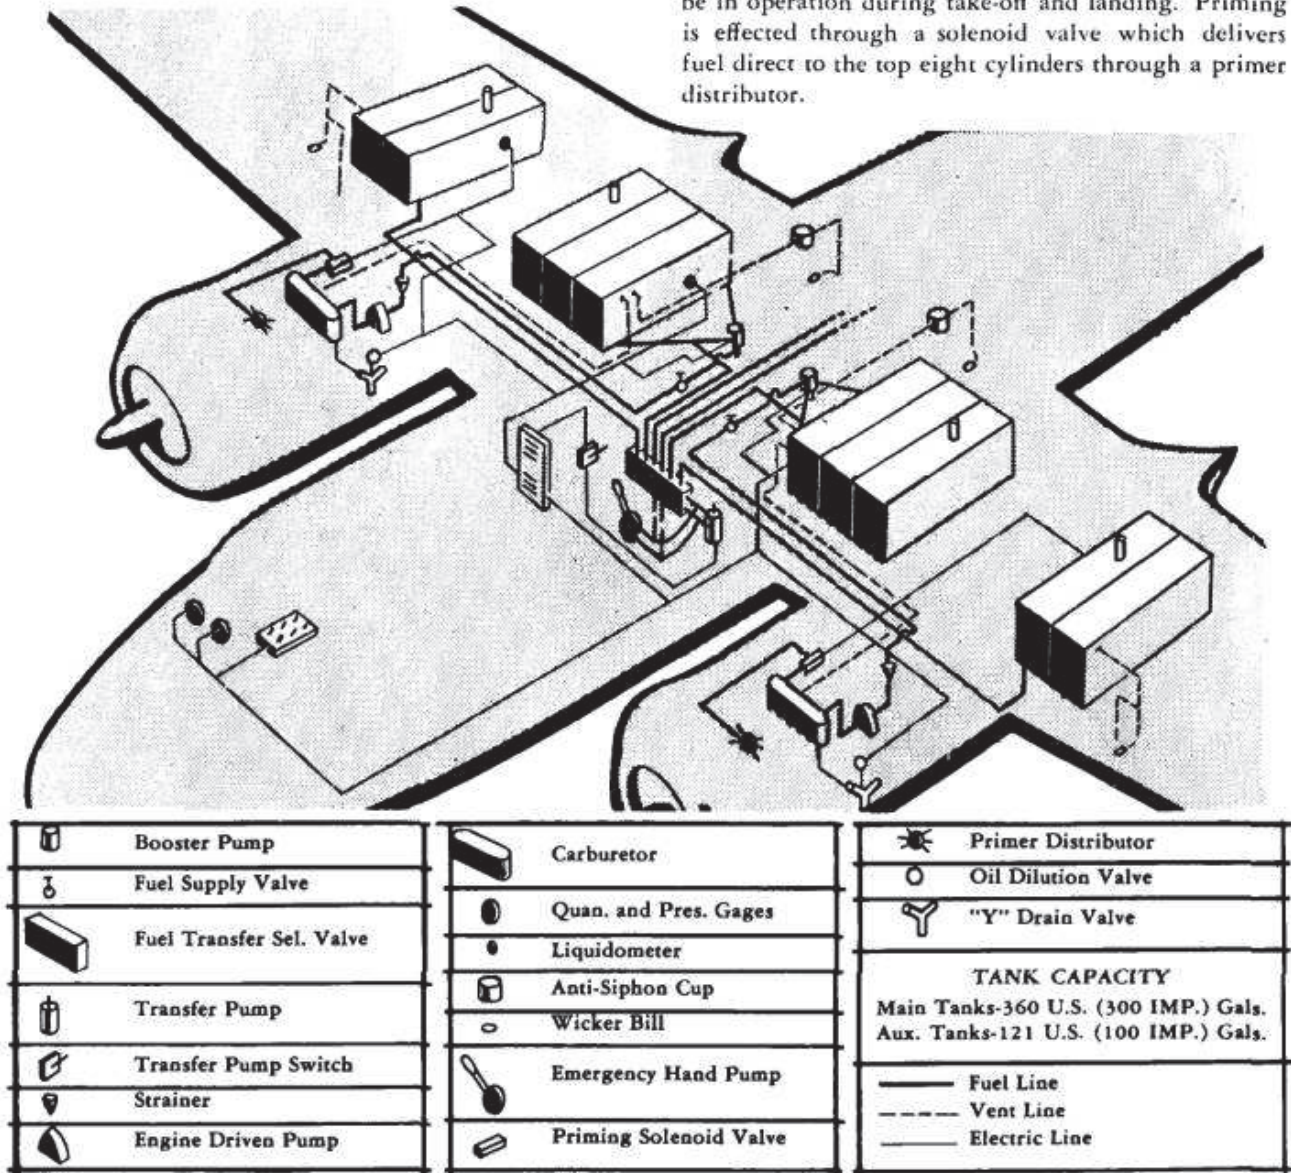

Figure 26 — Fuel System Diagram
1. FUEL SYSTEM. (See figures 26 and 27.)